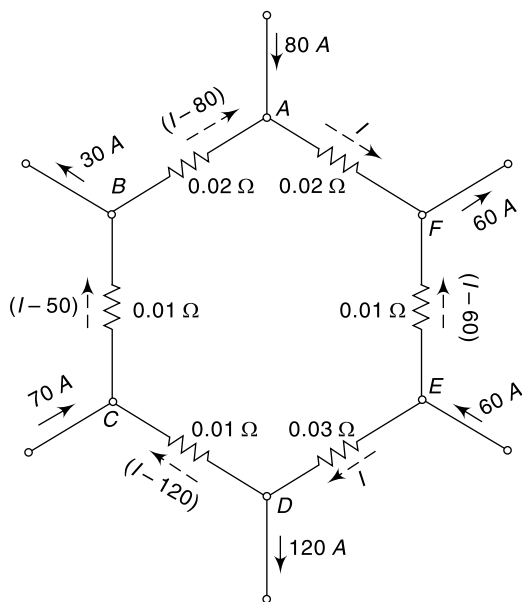

Fig. 4.51 Circuit of Ex. 4.36
4.36 Find current in all branches of the network shown in Fig. 4.51.
Let the current in the arm AF be I amps, as shown by dotted arrow. Using the concept of KCL, the currents at each of the branches have been identified in Fig. 4.51 in terms of the assumed current I . Next we apply the mesh analysis at the hexagonal network $AFEDCBA$. We have